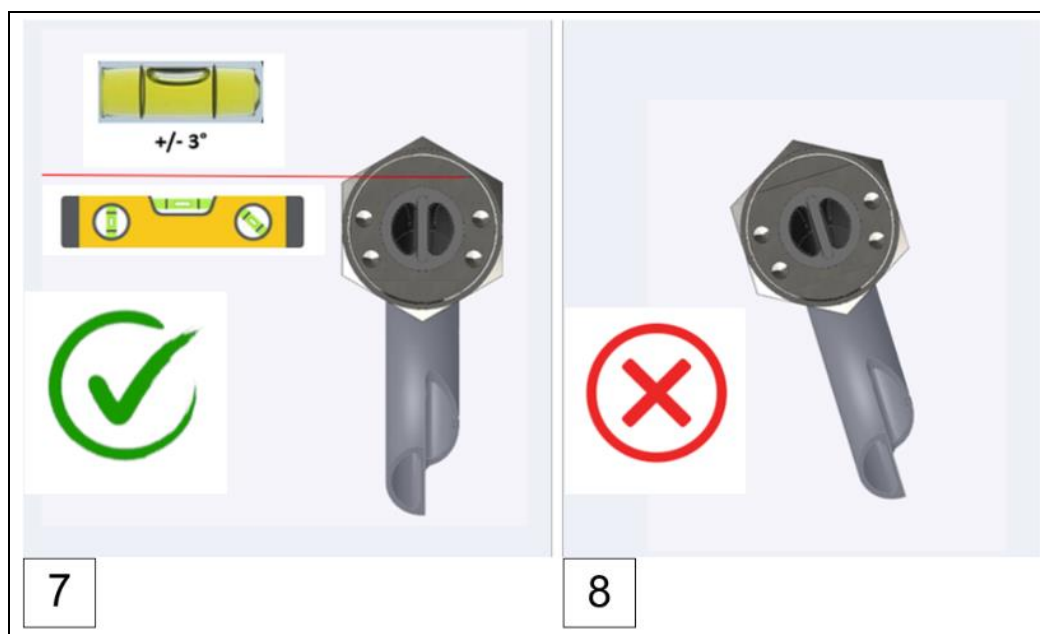

Fig.: 26 : Installing the engine wall connection for VN301^{plus} (steps 1 - 8)
- ▶ The intake position of the intake manifold must be outside areas with direct splash oil. (see Fig. 26)